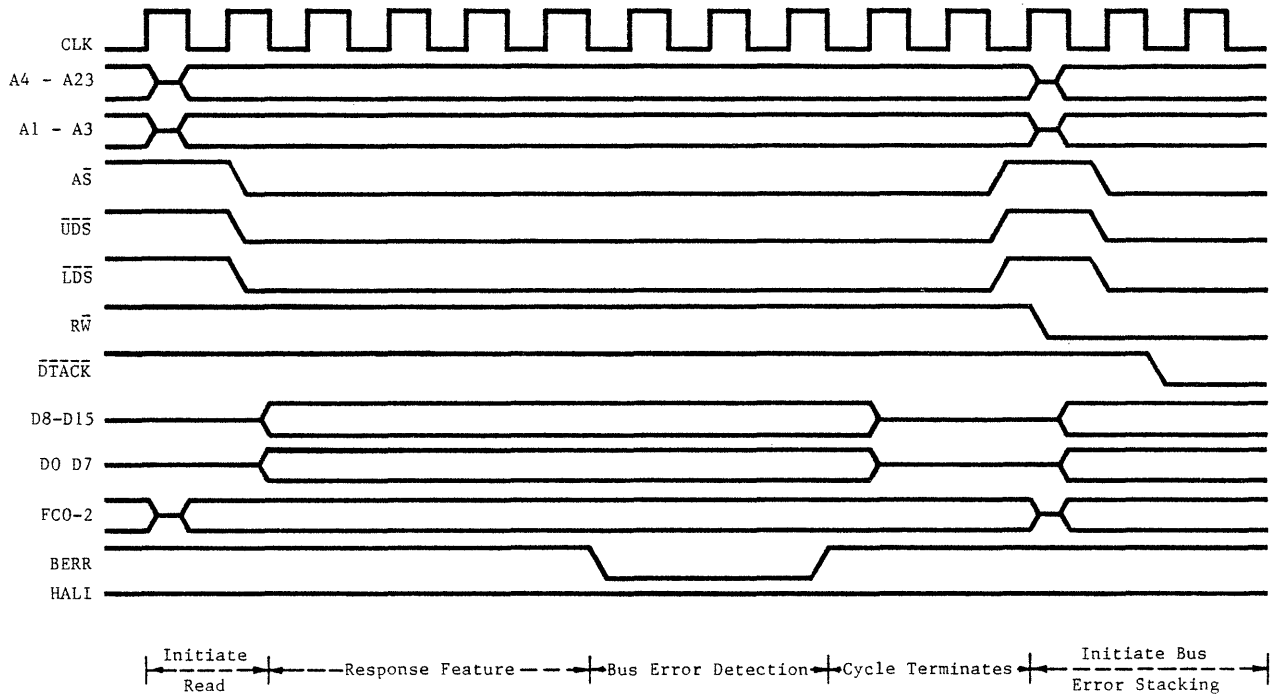

Figure 2-5
**Figure 2-5** is a record of a bus error sequence.